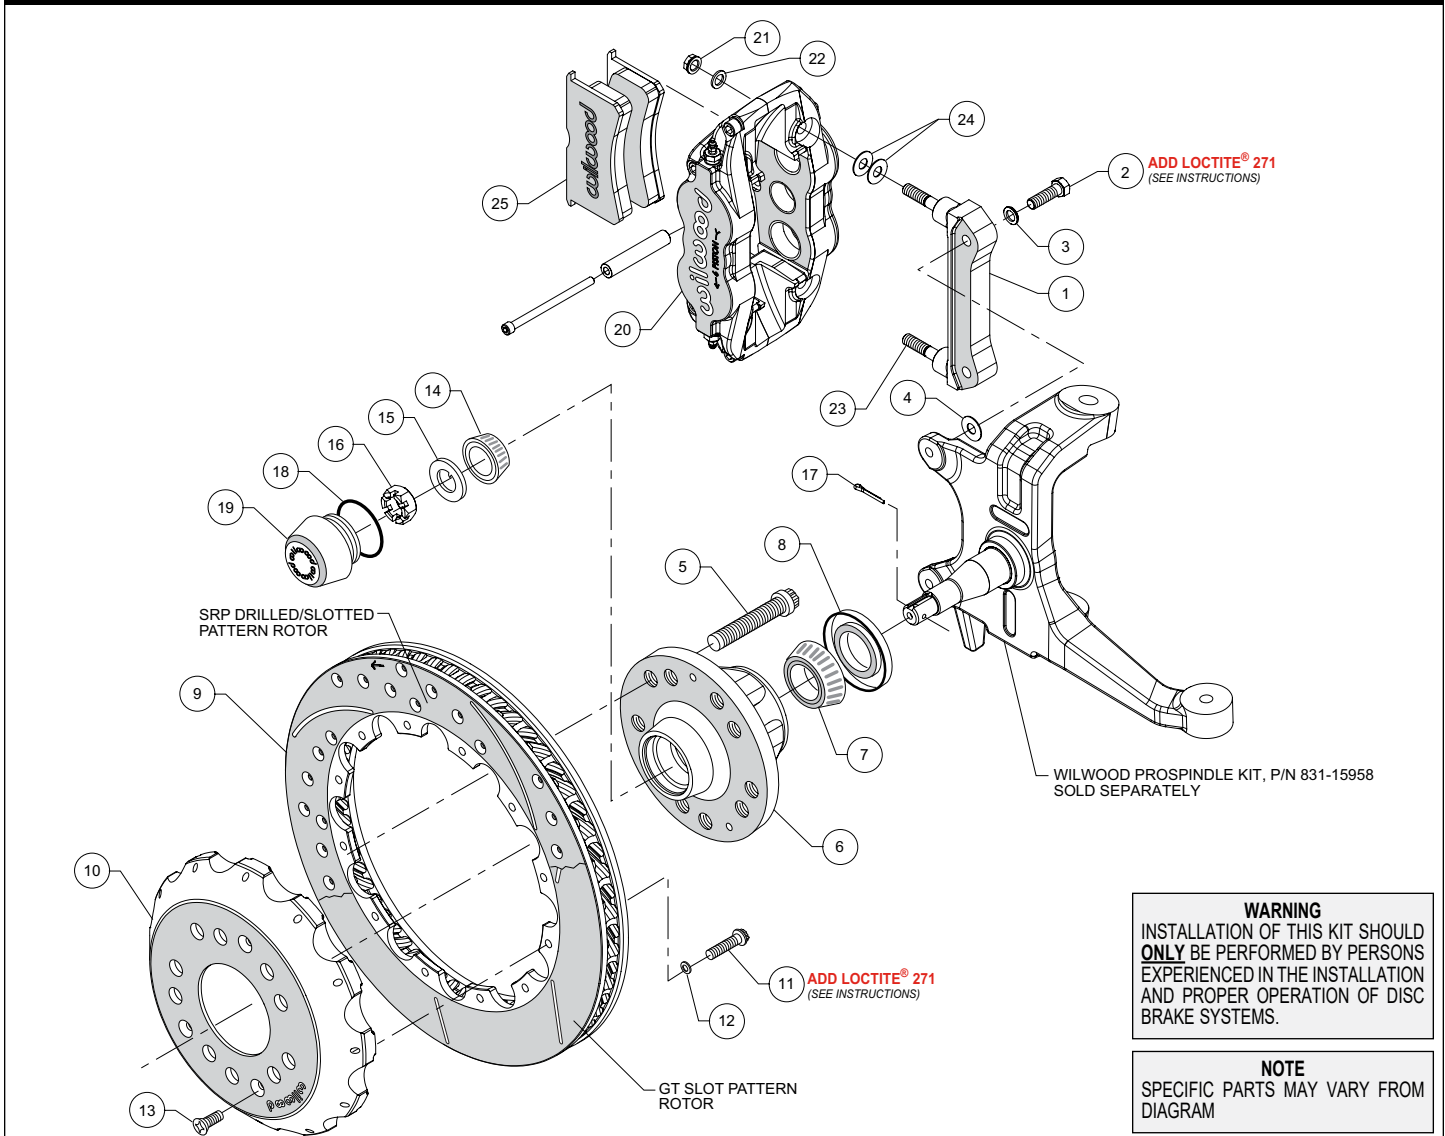
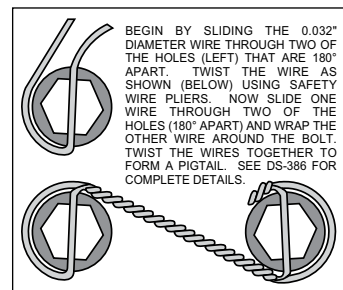

Figure 1. Typical Installation Configuration
Figure 3. Safety Wire Diagram
NOTE: Numbers in parenthesis refer to the parts list and Figure 1 on the preceding pages.
- The caliper mount bracket (1) should initially be installed with clean, dry threads on the mounting bolts. Orient the bracket as shown in Figure 1, and install using bolts (2) and washers (3). Initially place one .035" thick shim (4) on each bolt between the bracket and spindle, Figure 1 and Photo 1. Temporarily tighten the mounting bolts. **NOTE:** *The bracket must fit squarely against the mounting points on the spindle.* Inspect for interference from casting irregularities, machining ridges, burrs, etc. Later, after the caliper alignment has been checked, the mount bolts will be secured using red *Loctite*® 271.
- Install wheel studs (5) into the hub (6), Photo 2. Torque to 77 ft-lb. **NOTE:** *There are two five lug patterns in the hub (5 x 4.50 and 5 x 4.75).* Ensure the correct hub stud pattern is being used to fit the wheel application.
- Pack the large inner bearing cone (7) with high temperature disc brake bearing grease (available from your local auto parts store) and install into the backside of the hub (6), Photo 3.
- Install the grease seal (8) by pressing into the backside of the hub (6), flush with the end of the hub, Photo 3.
- Pack the small outer bearing cone (14) with high temperature disc brake bearing grease and install into front of hub (6). Slide the hub assembly onto the spindle. Secure using spindle washer (15) and spindle nut (16), Photo 4. Bearing adjustment: Tighten the nut while turning the hub. When there is a slight bind on the bearings, they are seated correctly. Back the nut off about 1/6 to 1/4 of a turn, or sufficiently to allow .001" to .007" end play. **WARNING:** *Failure to back off adjusting nut could cause bearing to run hot and be damaged, which could cause the wheel to lock or come off.* Install a new cotter pin (17).
- Screw dust cap (19) into hub (6). Friction created by the o-ring (18) on the dust cap keeps it from unscrewing. **NOTE:** The O.D. of the existing OEM spindle washer may be larger than the I.D. of the dust cap not allowing it to seat against the hub face. Therefore, use the spindle washer (15) supplied with the kit instead of the OEM washer.
- Orient the rotor (9) and the hat (10) as shown in Figure 1 and Photo 5. Attach rotor to hat using bolts (11) and washers (12). Apply red *Loctite*® 271 to the bolt threads and torque to 155 **in-lb** using a criss-cross pattern. For an added measure of security, the bolts may be safety wired using standard 0.032 inch diameter stainless steel safety wire as shown in Figure 3. Refer to Wilwood's data sheet DS-386 (available at www.wilwood.com/Pdf/DataSheets/ds386.pdf) for complete safety wire installation instructions.
•**NOTE:** This kit contains distinct right and left hand calipers that must be mounted in a specific direction, as described below. Initially place two .035" thick shims (24) on each stud (23) between the caliper and the bracket, as shown in Figure 1 and Photo 7. Mount the caliper (20) onto the bracket (1) using lock nuts (21) and washers (22), Figure 1. Ensure that the caliper is mounted so the largest pistons are at the rotor exit end of the caliper, in relation to the direction of rotor rotation. Temporarily tighten the lock nuts and view the rotor through the top opening of the caliper. The rotor should be centered in the caliper, Photo 8. If not, adjust by adding or subtracting shims (4) between the bracket and the spindle. Always use the same amount of shims on each of the two mounting bolts. Once the caliper alignment is correct, remove the bracket mounting bolts (2) one at a time, apply red *Loctite*® 271 to the threads, and torque to 40 ft-lb.